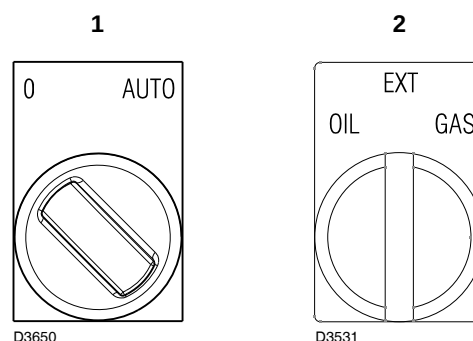

Fig. 32
Close load controls and set switch 1) (Fig. 32) to "AUTO".
- 2 using selector 2) (Fig. 32);
By setting selector 2) (Fig. 32) to EXT, you activate the remote fuel selection facility.